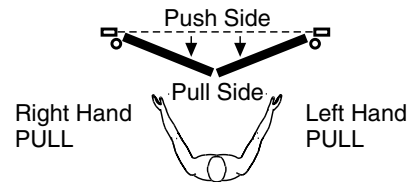

Figure 1
1. Determine door handing. (Figure 1)